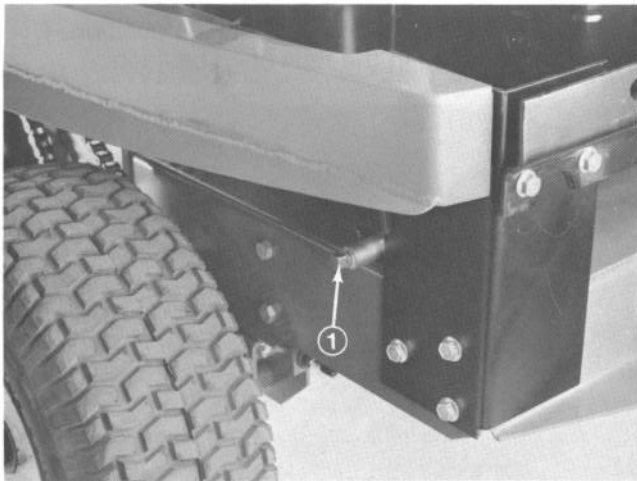

Figure 19
- B. Turn engine off, set parking brake and place drain pan below drain plug (Fig. 19). Remove drain plug and allow all oil to flow into drain pan. Install drain plug securely after oil stops flowing.